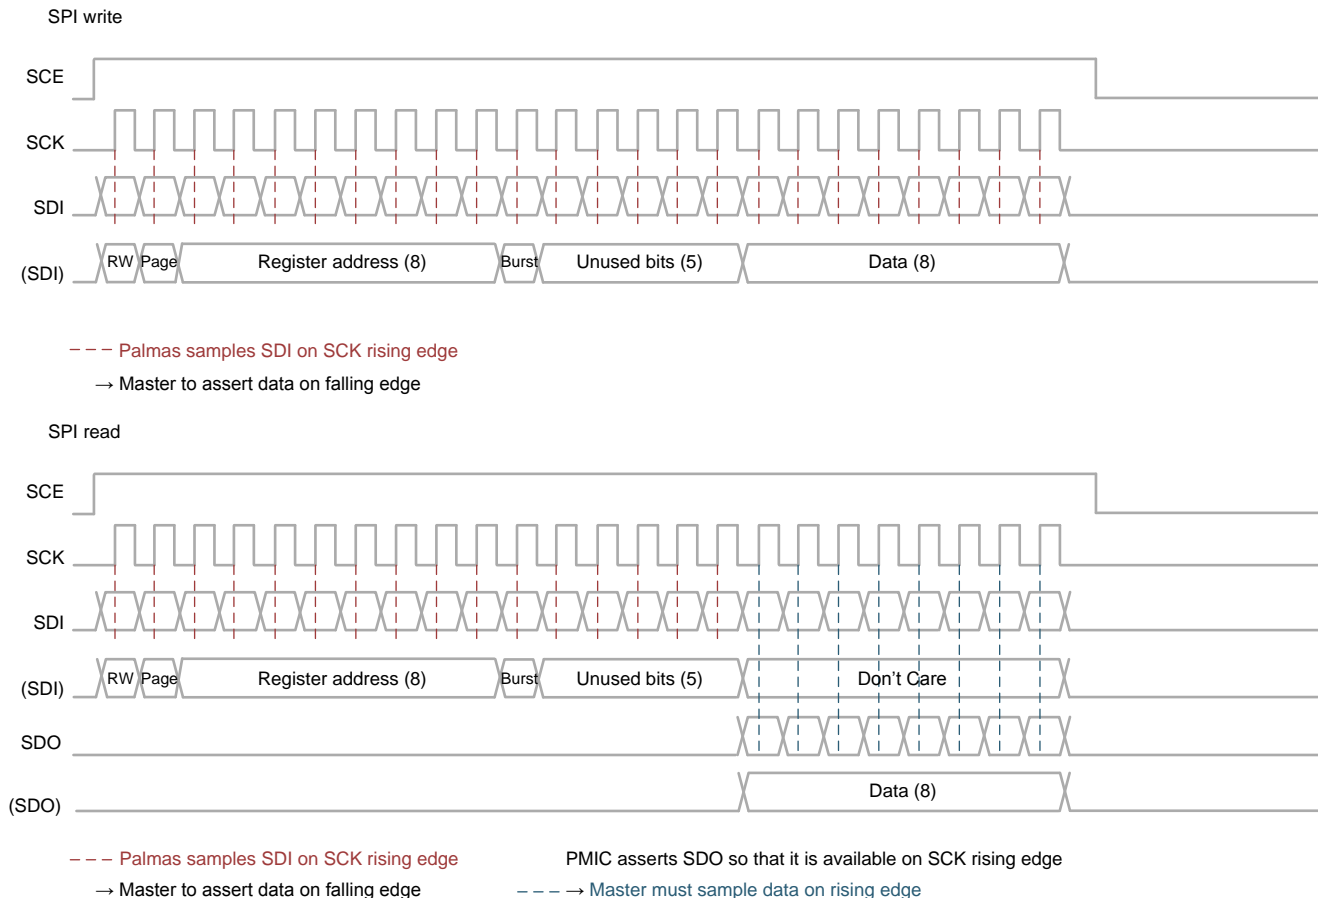
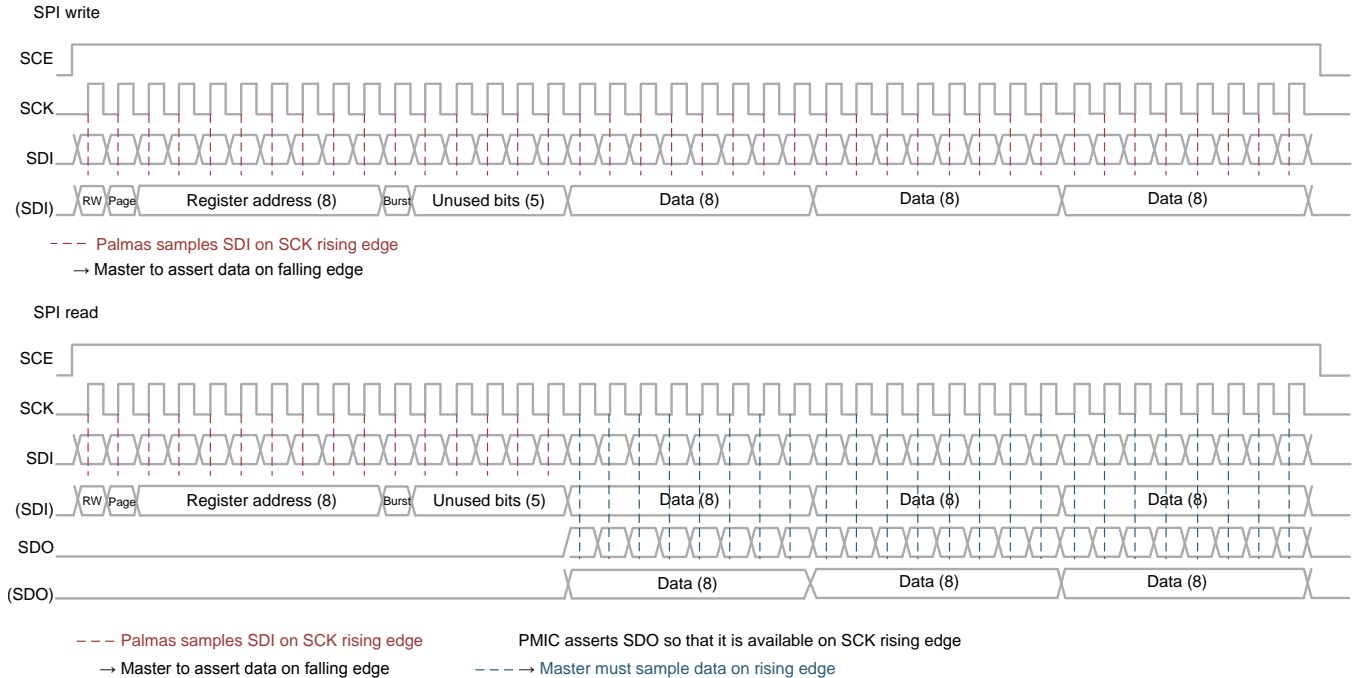

Figure 5-21. SPI Single Read and Write Access
FIG 5-22. SPI Burst Read and Write Access
- This mode consists of fetching and storing one single data location. The protocol is shown in FIG 5-21.
- This mode consists of fetching and storing several data at contiguous locations. The protocol is shown in Figure 5-22.
Figure 5-21 shows the SPI protocol for a single read and write access. Figure 5-22 shows the SPI protocol for a burst read and write access.